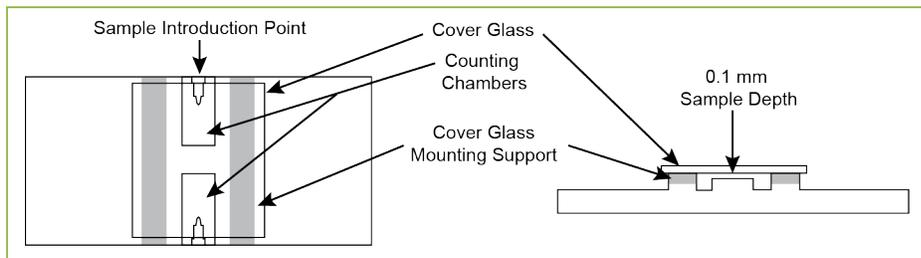

Figure 4: Standard Hemocytometer
3. Place a cover glass on the cover glass mounting supports (Figure 4).